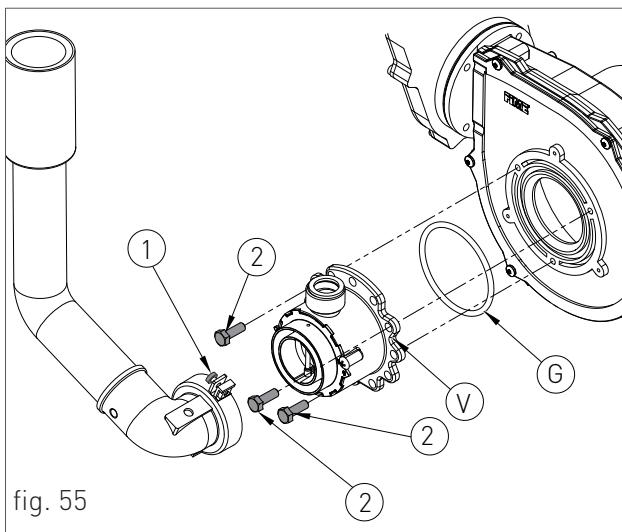
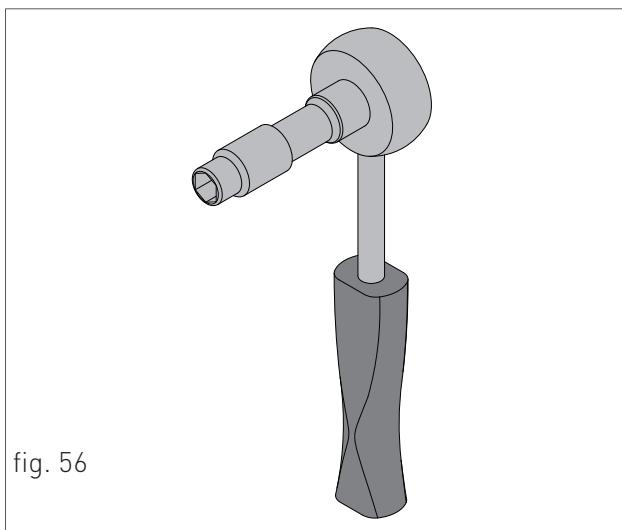

fig. 55
fig. 56
- › loosen the two screws '1' (fig. 55) from the fastening bush, and remove the air suction tube;
- › unscrew the three fastening screws '2' (fig. 55) of the venturi 'V' (fig. 55) using a 10 key, as shown in figure 56;
- › remount the components following the demounting operations in reverse making sure that gasket 'G' is re-assembled as shown in fig. 55;